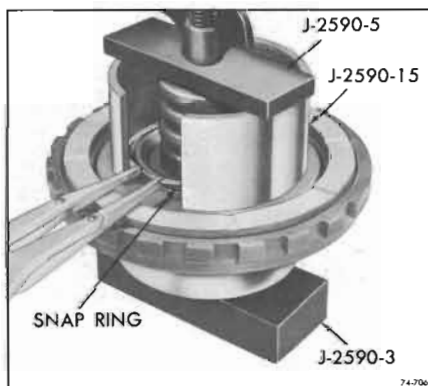

Figure 74-722
6. Using the Clutch Spring Compressor, J-2590, compress the springs and install the snap ring. See Figure 74-722.